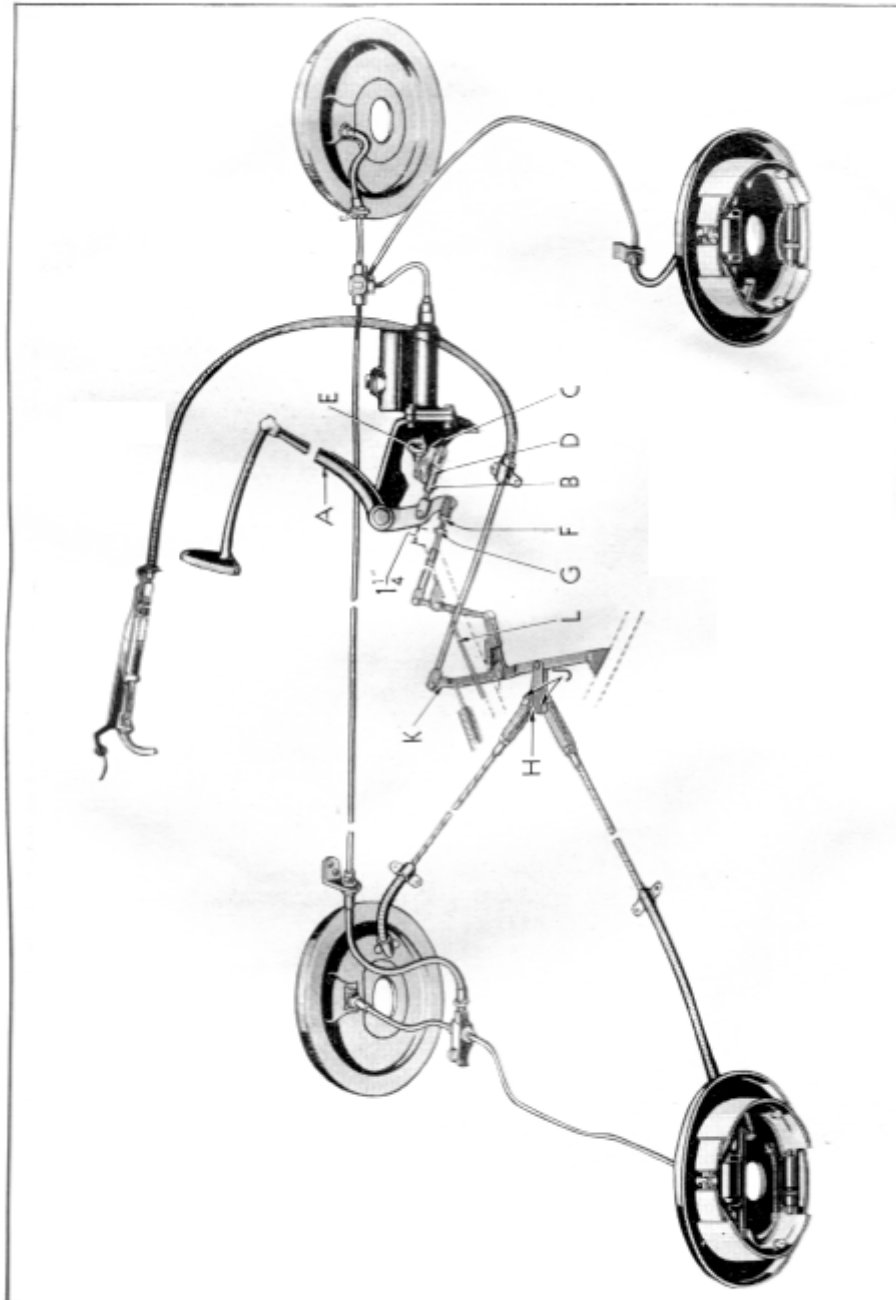
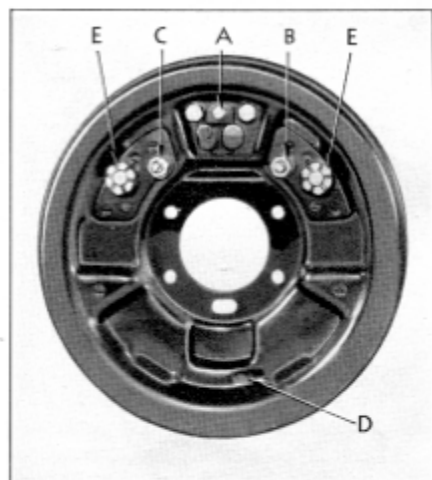
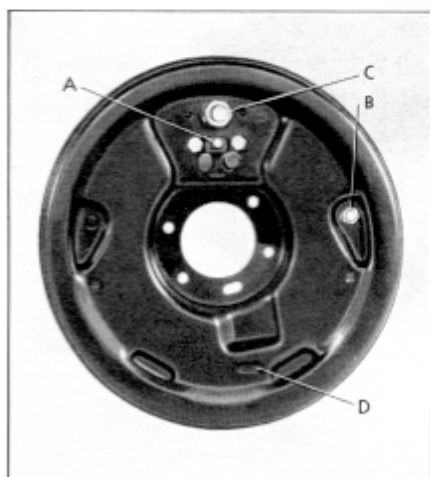

Figure 46
Figure 50
Figure 52
The brakes used on all models are hydraulically controlled, with supplementary actuation of the rear brake shoes from both the foot pedal and hand brake. See "Brake Layout," Figure 46.
To insure full return of the master cylinder piston, when the brake is released, there must be $\frac{1}{4}$ " clearance between pedal shank (A), Figure 46, and the floor board.
With master cylinder operating lever (E), Figure 46, against the stop, loosen brake pedal push rod adjusting end lock nut (F) and turn rod (G) until rear face of hex is $1\frac{1}{4}$ " from front end of pedal push rod. Tighten lock nut (F) securely.
3. Disconnect rear brake cables at cable lever toggle (H), Figure 46, by removing clevis pins (J).
5. Insert .010" feeler gauge between brake drum and upper end of lining of primary or front shoe. Loosen eccentric lock nut (B), Figure 50, and turn eccentric in direction of forward wheel rotation until feeler gauge is just snug. Hold eccentric in position and tighten lock nut.
6. Repeat operation (5) on the secondary or rear shoe after loosening eccentric nut (C).
7. Expand lower ends of shoes against drum by turning adjusting screw (D) with an adjusting tool inserted through slotted hole by moving outer end of tool toward center of backing plate until drum can just be turned by hand.
8. Pull hand brake lever two notches from full release, or until $\frac{1}{8}$ " clearance is obtained between hand brake cable lever (K), Figure 46, and end of slot in lever guide plate (L).
9. Pull cables tight and adjust ends so that clevis pins just enter holes in toggle (H).
11. Back off adjusting screw through slot (D), Figure 50, by moving outer end of tool away from center of backing plate until drum is just free of lining drag. Be sure to back off each screw the same number of turns. Replace adjusting screw hole covers and brake drum hole covers.
6. Loosen eccentric nut and turn eccentric (B), Figure 52, in direction of forward wheel rotation until feeler gauge is just snug at anchor (top) and adjusting (lower) ends of shoe. Hold eccentric in position and tighten lock nut.
7. Expand both shoes tightly against drum by turning adjusting screw with a tool inserted through slotted hole (D), Figure 52, moving end of tool toward center of backing plate until drum can just be turned by hand.
9. Pull cables tight and adjust ends so clevis pins just enter holes in toggle (H).
11. Back off adjusting screws through slot in backing plate, Figure 52, by moving outer end of tool away from center of backing plate until drum is just free of lining drag. Be sure to back off each screw the same number of turns. Replace adjusting screw hole covers and brake drum hole covers.